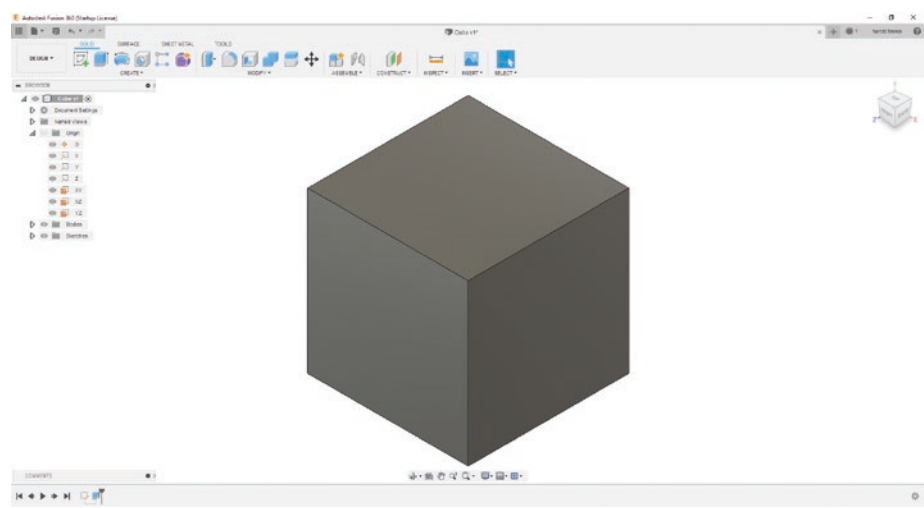

Figure 3-52. *Final cube*
4. If everything looks fine, press the Enter key or click the “OK” button under the “EXTRUDE” menu. See Figure 3-52.